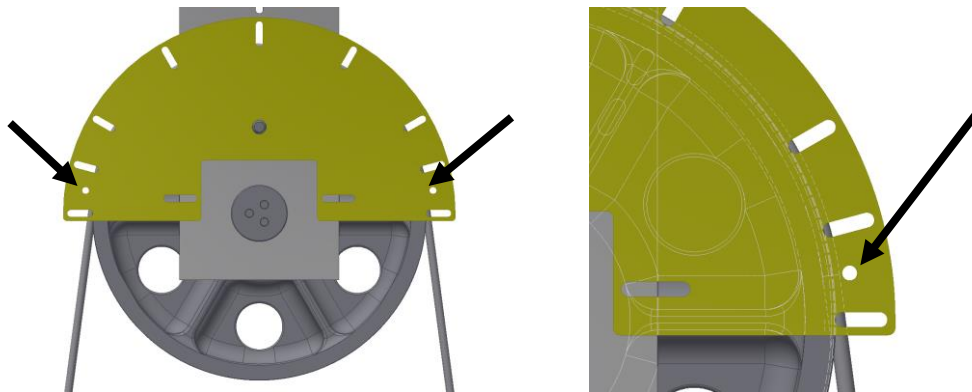

Figure 12: Rope Retainer Arc of Contact Tangency
- It is recognized that the angle of wrap may fall between these standard positions as in the example below of 165° illustrated in Figure 12. A17.1/B44 code (8.4.3.1.4 (b)) states that "... a restraint is located at each end of the arc of contact."
- As necessary, drill 9/16" (0.5625") holes at the end of the arc of contact (in the example given 165°) as shown below in Figure 12. Make sure that the hole position allows running clearance between the rope and the retaining rod.